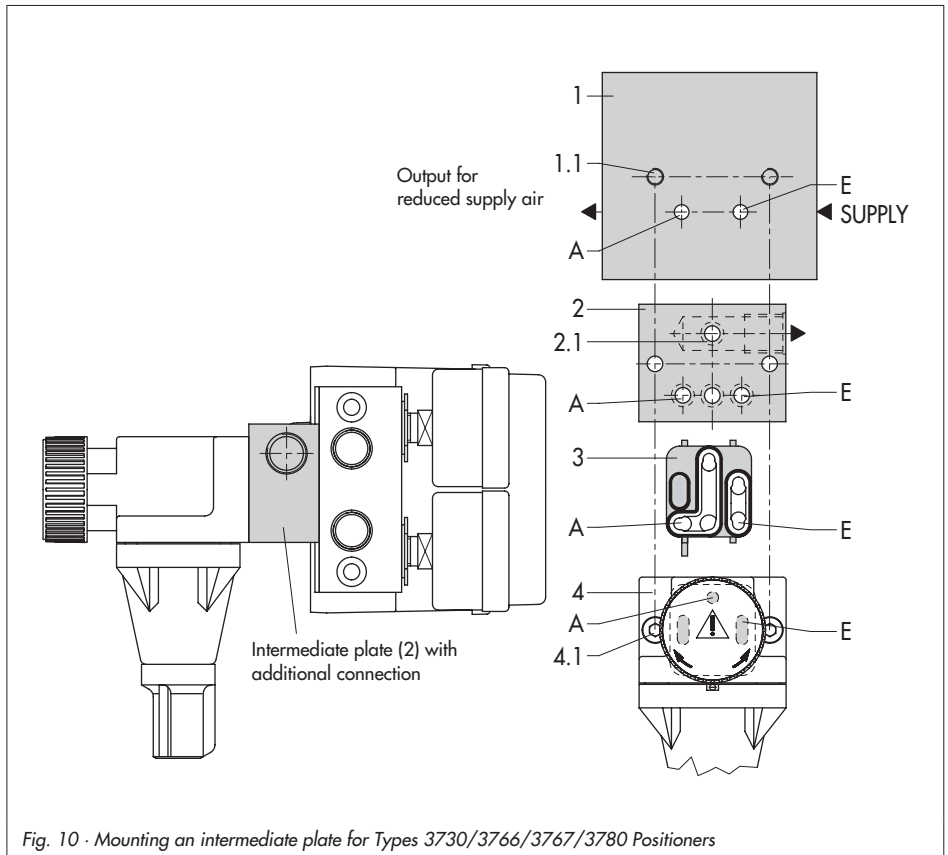

Fig. 10 · Mounting an intermediate plate for Types 3730/3766/3767/3780 Positioners
Note! The long rubber finger of the diverting gasket (3) must always point in the direction of the regulator output (reduced supply air). See Figs. 10, 11, 12.
2. Insert O-rings (2.1) in the bores of the intermediate plate (2).